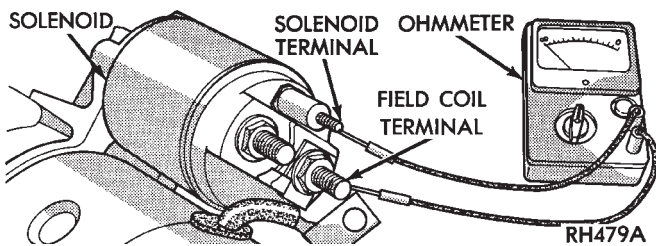

Fig. 7 Continuity Test Between Solenoid Terminal and Field Coil Terminal - Typical
(1) Remove the starter motor from the vehicle. Refer to **Starter Motor** in the Removal and Installation section of this group for the procedures.
(2) Disconnect the wire from the solenoid field coil terminal.
(3) Check for continuity between the solenoid terminal and the solenoid field coil terminal with a continuity tester (Fig. 7). There should be continuity. If OK, go to Step 4. If not OK, replace the faulty starter motor assembly.